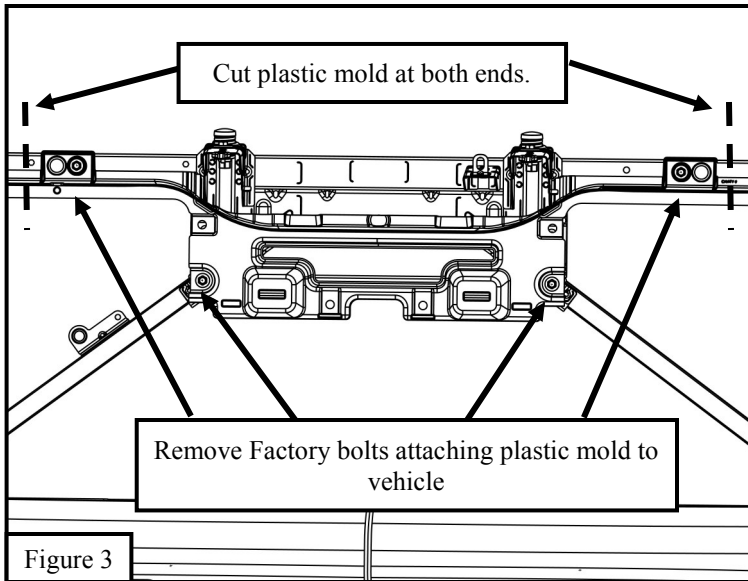

Figure 3
5. Once grille is removed plastic mold surrounding radiator will be exposed. Remove factory bolts attaching plastic mold to vehicle. Once bolts are removed, cut on indicated locations. The plastic mold that was cut should now be detached from main body and vehicle, and may be removed. See **Figures 3 - 5**.